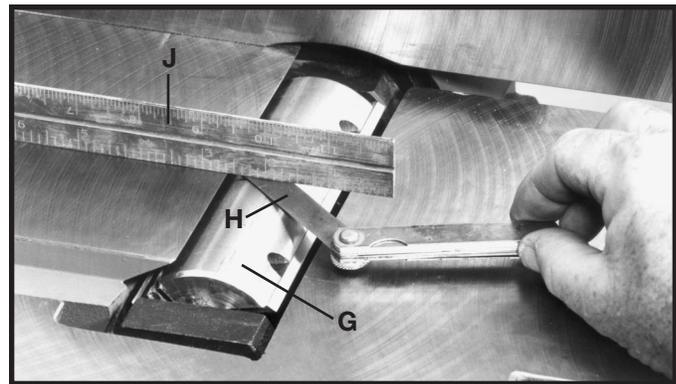

Fig. 59
9. Carefully rotate the cutterhead (G) Fig. 59, until the round portion of the cutterhead is on top as shown.
10. Place a .060" feeler gage (H) Fig. 59, on the cutterhead and using a straight edge (J) on the rear table adjust the height of the rear table until it is .060" above the cuttinghead diameter, as shown.